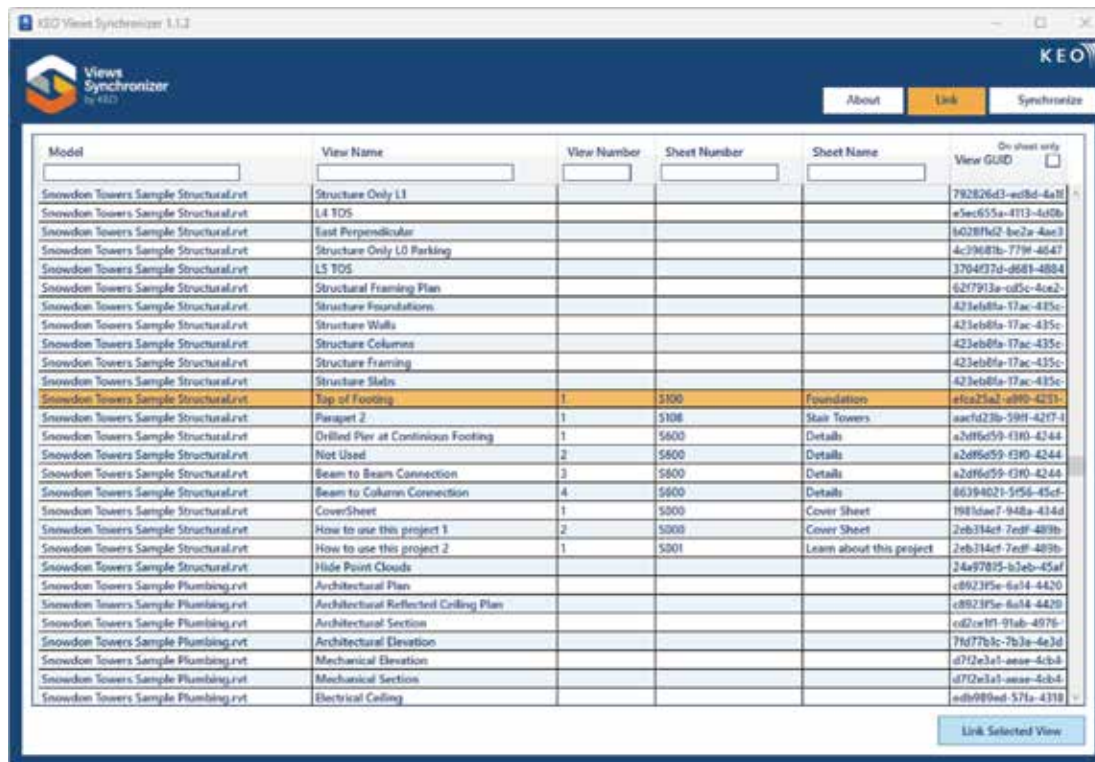

Figure 21
**Usage** - Create the required Detail Item. Select it, click Edit Type and ensure that the VS\_Enabled parameter is set to Yes. Then click the Views Synchronizer tool. You will be prompted to link to views in the linked model (as well as the host model, which, of course, you will scroll over as this part is redundant). Figure 21.